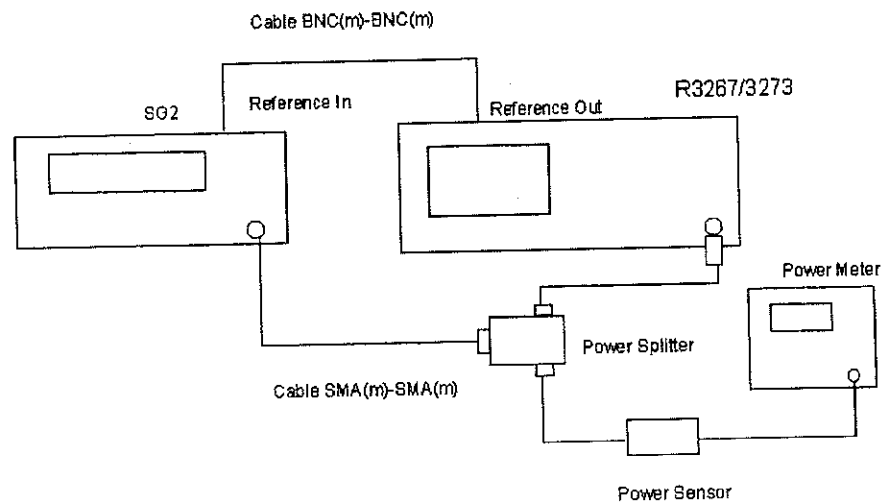

Figure 3-14 Setup of Frequency Response Test
2. Connect equipment as shown in Figure 3-14.